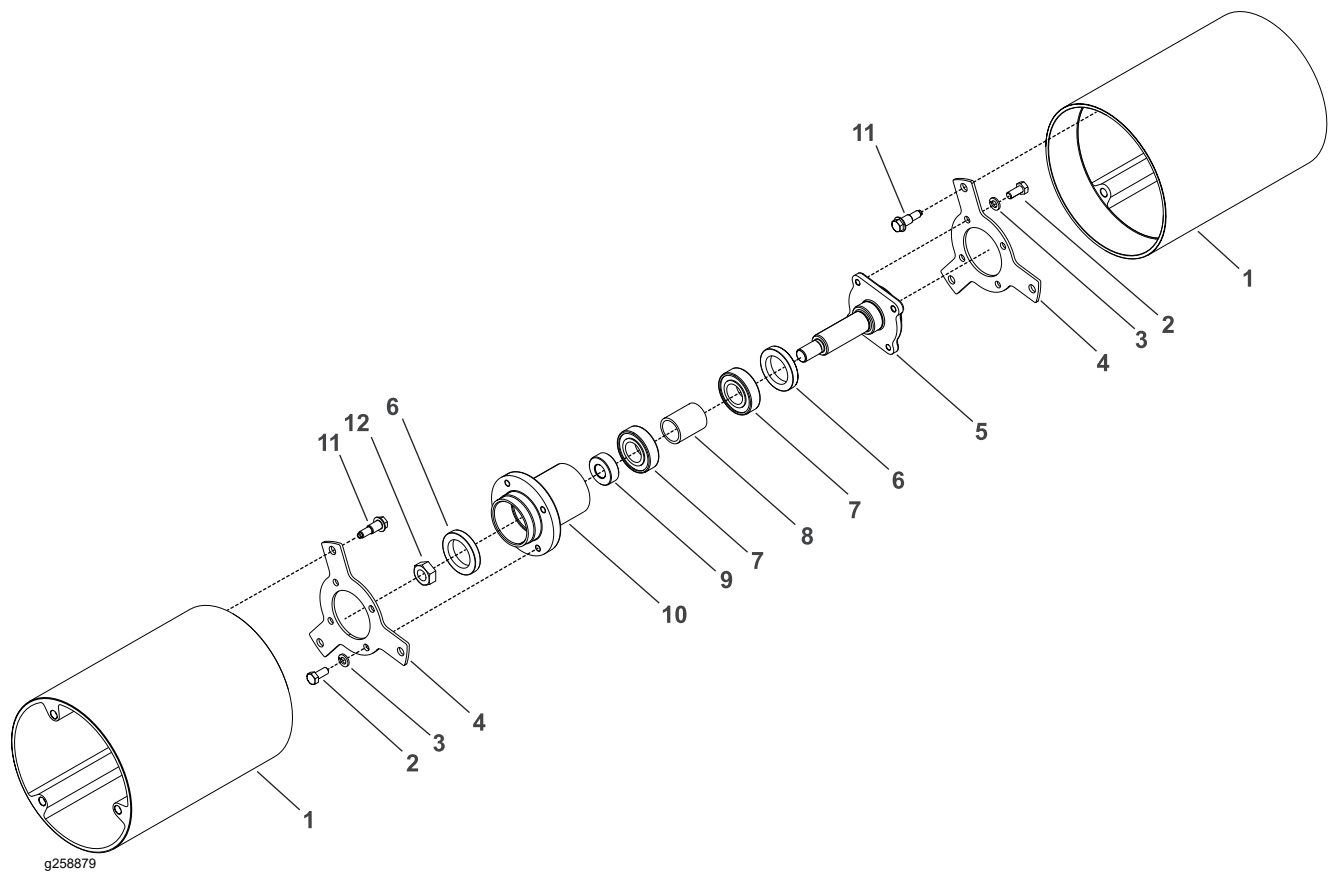

Figure 22
Note: Refer to Figure 22 during this procedure.
Note: The fit between the drum hub plate (item 4 in Figure 22) and drum (1) is a close tolerance and can be easily jammed. The hub can be rotated when seated properly in the bore of the drum.
5. Secure the drum hub plate (4) to the drum hub (10) with the 4 bolts (2) and washers (3). Tighten the bolts using an alternating pattern. Repeat tightening sequence a second time.
6. Secure the drum hub plate (4) to the drum spindle (5) with the 4 bolts (2) and washers (3). Tighten the bolts using an alternating pattern. Repeat tightening sequence a second time.